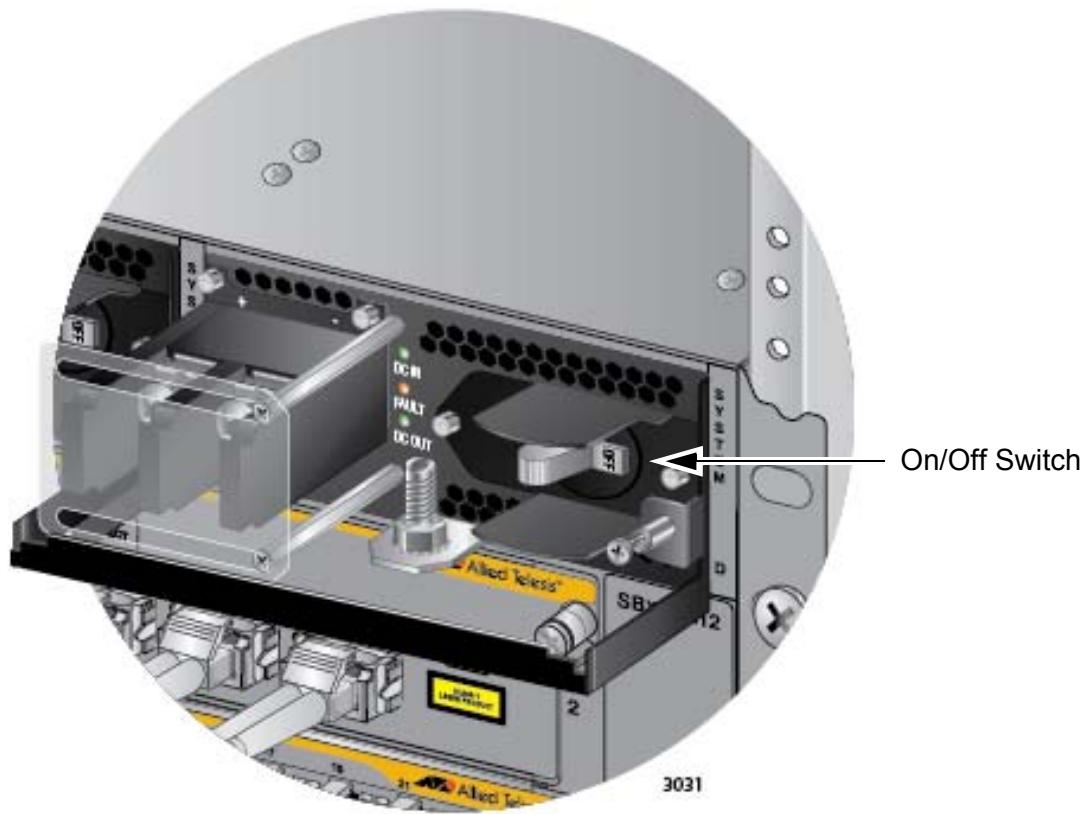

Figure 111. On/Off Switch on the AT-SBxPWR SYS1 DC Power Supply
3. Verify that the On/Off switch on the AT-SBxPWRSYS1 DC Power Supply is in the Off position. Refer to Figure 111 on page 158.
13. Turn the On/Off switch on the power supply to the On position. See Figure 111 on page 158.
2. Verify that the On/Off switch on the AT-SBxPWRSYS1 DC Power Supply is in the Off position. Refer to Figure 111 on page 158.
12. Turn the On/Off switch on the power supply to the On position. See Figure 111 on page 158.
11. Turn the On/Off switch on the power supply to the On position. See Figure 111 on page 158.